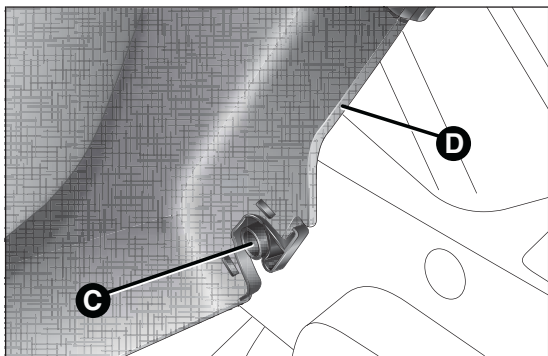

fig. 62
- free the pins C fig. 62 outside the shelf then remove the parcel shelf D by sliding it outwards;